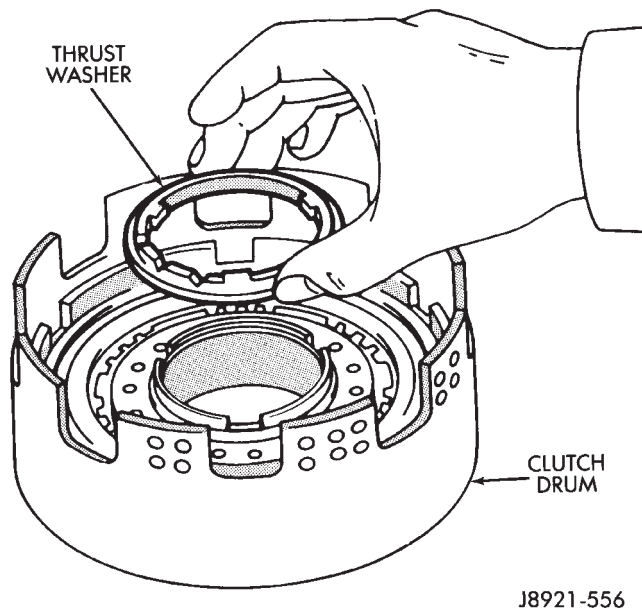

Fig. 2 Removing Clutch Drum Thrust Washer
(2) Remove clutch drum thrust washer (Fig. 2).